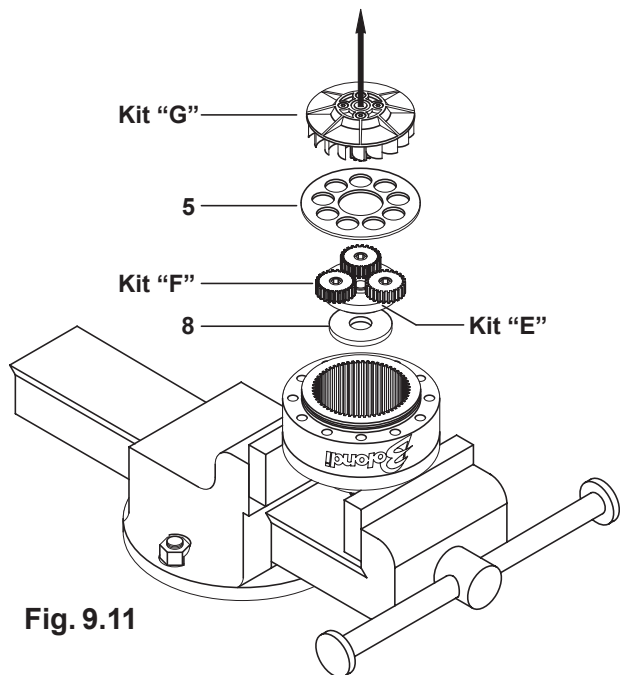

Fig. 9.11
9.3.1) Once the head has been removed as in paragraph 9.1.6, remove the impeller unit (kit "G"), the flange pos.5, the planetary gears pos.29 (kit "F"), the gear (kit "E") with relative washer pos.8 (Fig.9.11).